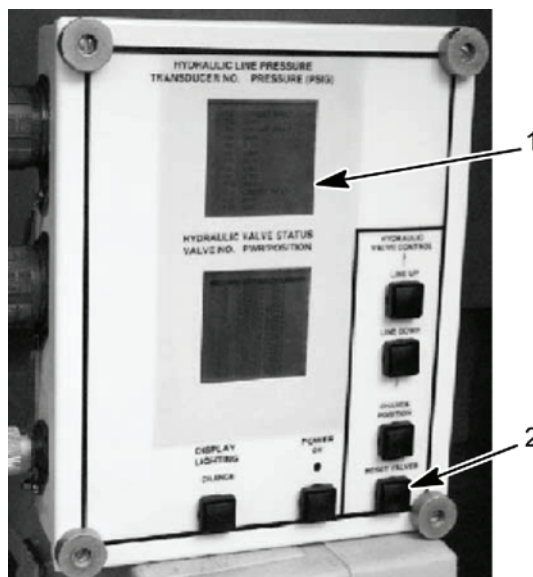

Figure 14. HDC Control Box
- Reset all HDC solenoid valves by selecting the RESET VALVES button (Figure 14, item 2) on the HDC control box.
- Start engine. Place SPRUNG/UNSPRUNG lever in SPRUNG. Move (right or left, as applicable) SUSPENSION CONTROL lever to RAISE. Read transducer T-5 (front right actuator) or T-6 (front left actuator) hydraulic pressure on the HDC display (Figure 14, item 2).
- Wait until transducer T-1 hydraulic pressure on the HDC display (Figure 14, item 1) is less than 500 psi (3447.379 kPa).
- Read transducer T-1 hydraulic pressure on the HDC display (Figure 14, item 1).